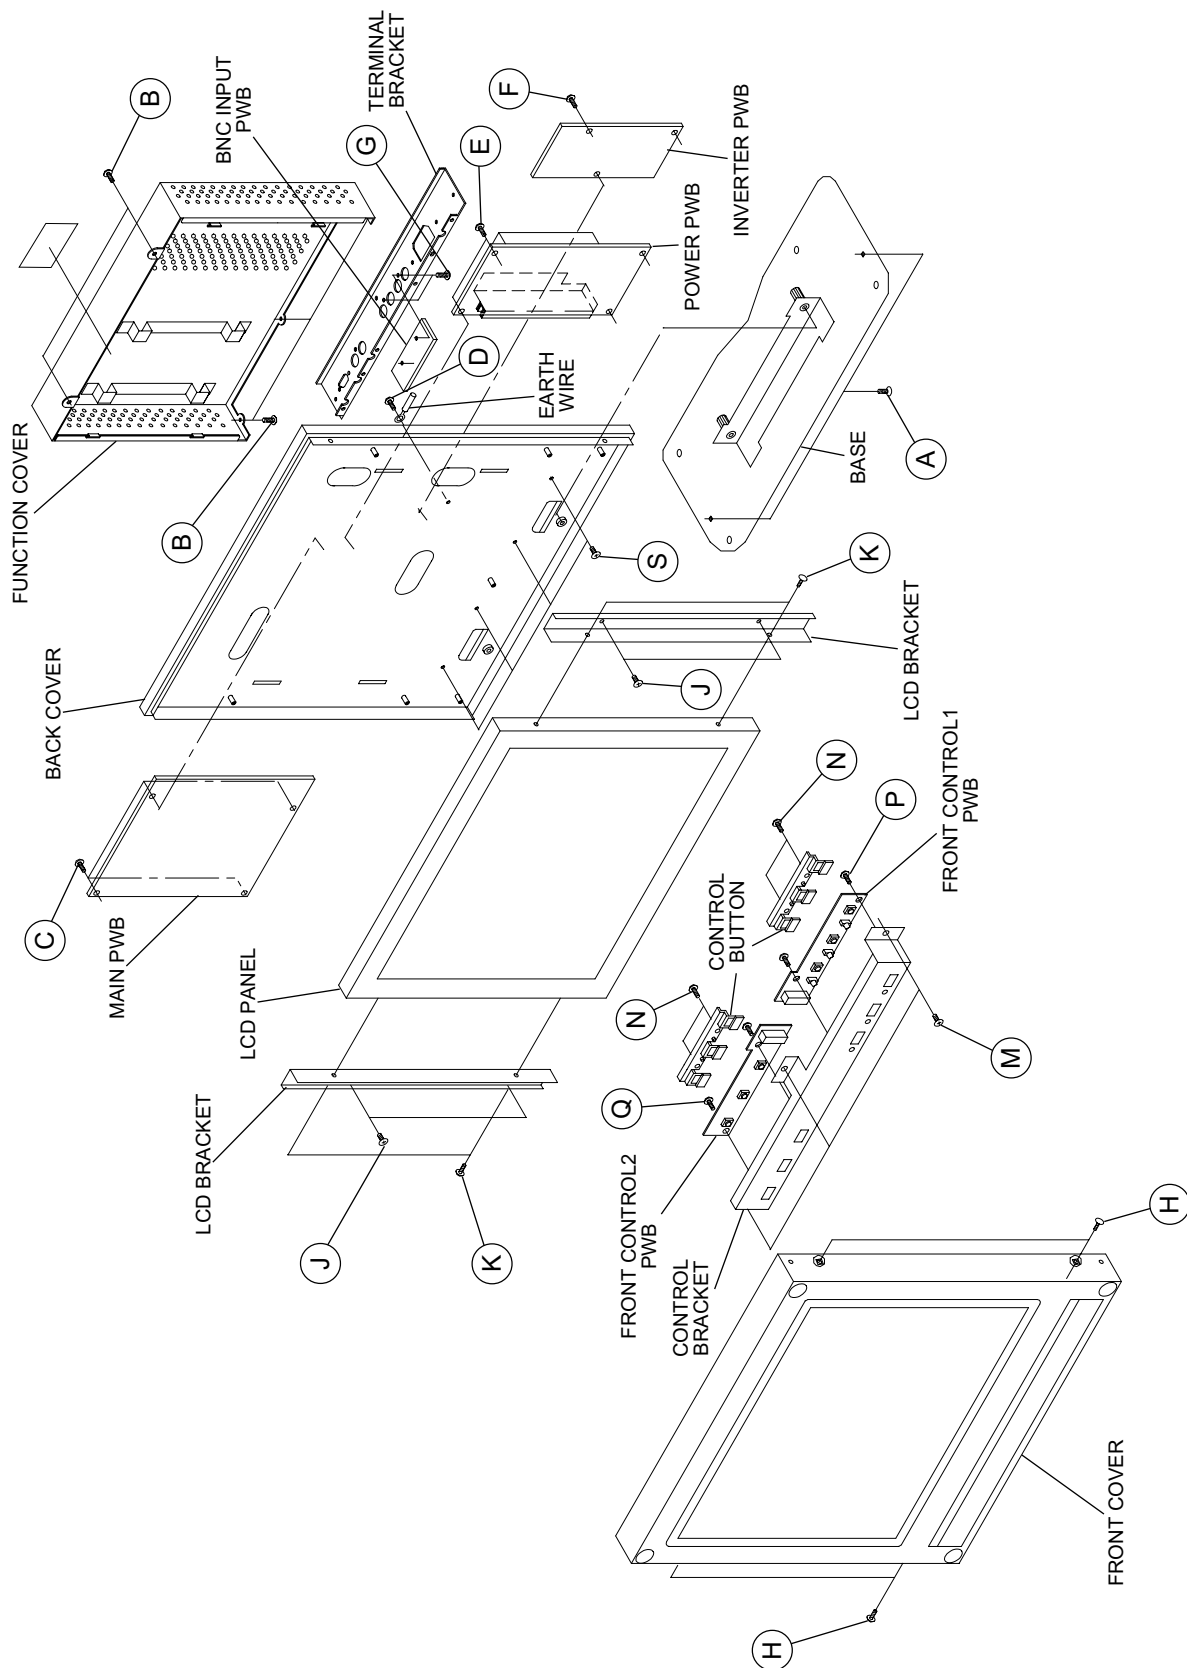

Fig. 1
- (1) Lie down the unit and let panel downward.
- (2) As shown in Fig.1, remove 2 screws [A] and loosen the two spring screws on BASE.
- (3) Slightly remove the BASE.
- (1) As shown in Fig.1, remove 5 screws [B].
- (2) Shift the FUNCTION COVER toward BASE and raise upward.
- (1) As shown in Fig.1, remove 4 screws [C].
- (2) Slightly remove the MAIN PWB upward.
- (1) As shown in Fig.1, remove 1 screw [D].
- (2) As shown in Fig.1, remove 4 screws [E], and remove the earth wire.
- (3) Slightly remove the POWER PWB upward.
- (1) As shown in Fig.1, remove 3 screws [F].
- (2) Slightly remove the INVERTER PWB upward.
- (1) As shown in Fig.1, remove 2 screws [G].
- (2) Slightly remove the BNC INPUT PWB upward.
- (1) Lie down the unit and let panel upward.
- (2) As shown in Fig.1, remove 4 screws [H].
- (3) Slightly remove the FRONT COVER.
- (1) As shown in Fig.1, remove 4 screws [J].
- (2) Raise LCD PANEL upward.
- (3) As shown in Fig.1, remove 4 screws [K].
- (4) Remove the LCD BRACKET (R) and the LCD BRACKET (L).
- (1) As shown in Fig.1, remove 3 screws [M].
- (3) Remove the CONTROL BRACKET upward.
- (1) As shown in Fig.1, remove 4 screws [N].
- (2) Remove two CONTROL BUTTON downward.
- (1) As shown in Fig.1, remove 2 screws [P].
- (2) Remove the FRONT CONTROL 1 PWB upward.
- (3) As shown in Fig.1, remove 2 screws [Q].
- (4) Remove the FRONT CONTROL 2 PWB upward.
- (1) As shown in Fig.1, remove 4 screws [S].